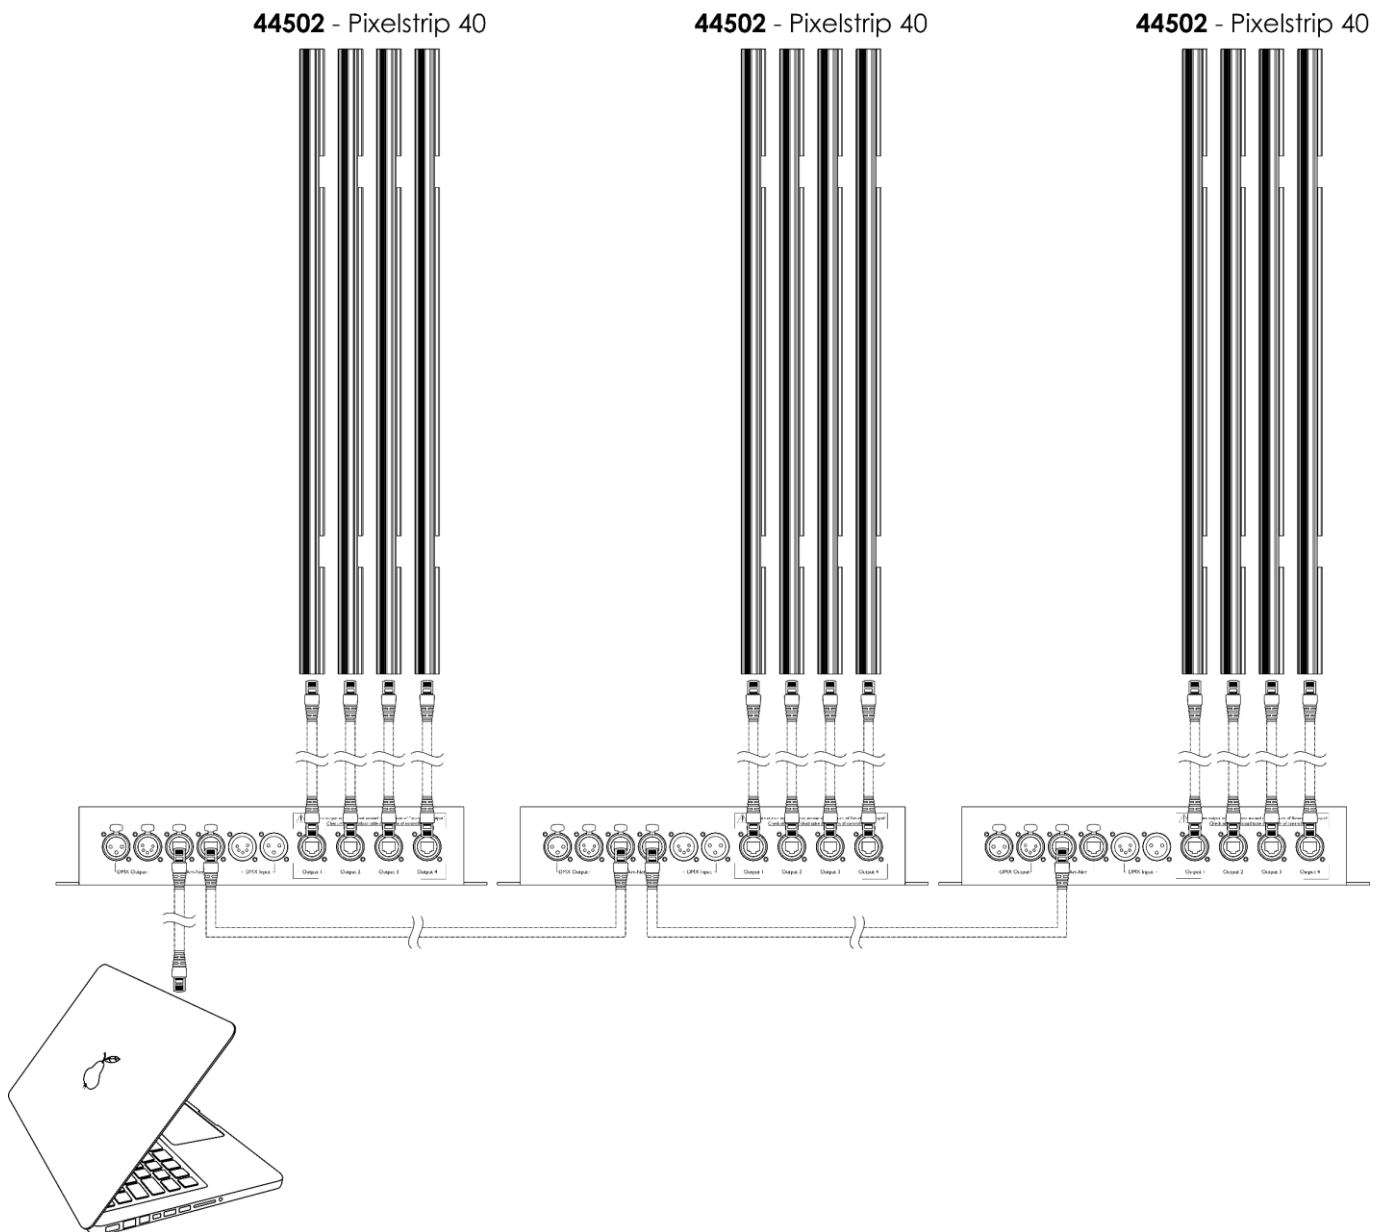

Fig. 11
- 03) Repeat step 2 to connect all devices as shown in Fig. 11.